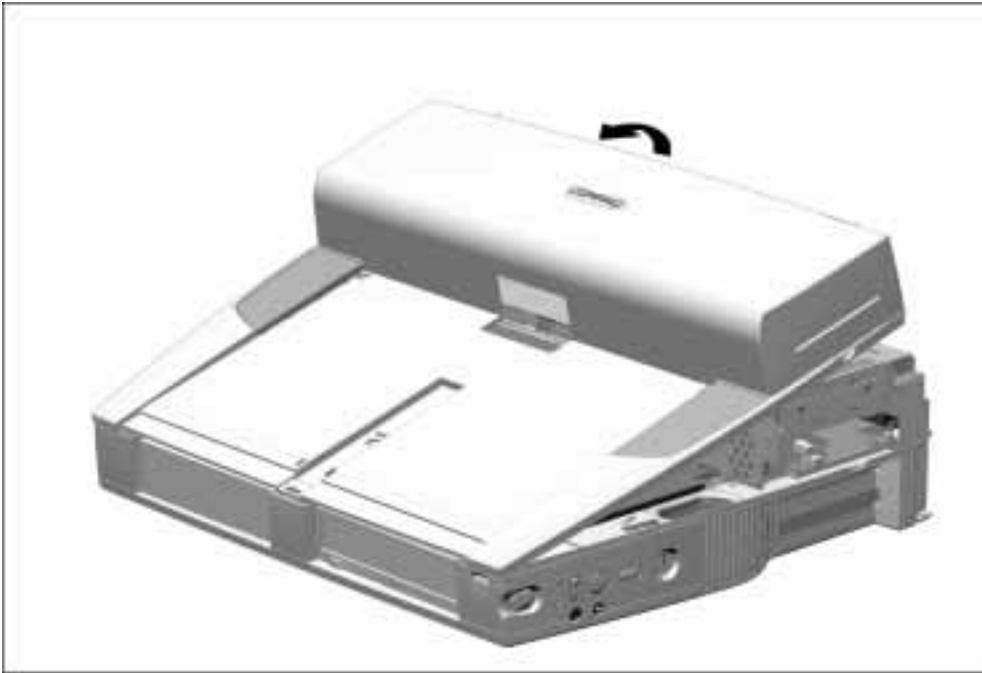

Figure 5-12. *Removing the Upper Case Assembly*
6. Grasp the back of the upper case assembly, lift up on the back of the assembly, and swing it forward (Figure 5-12).